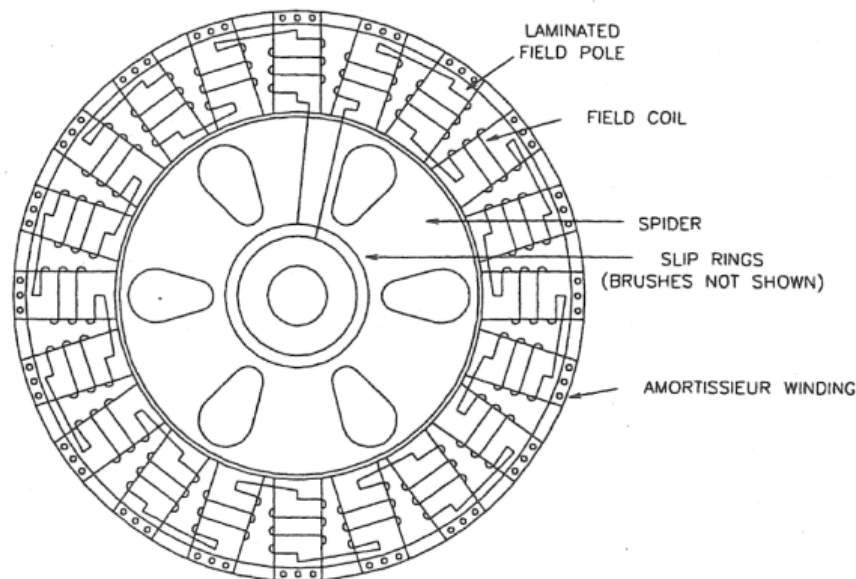

Figure 5 - Outline of a low speed alternator field.
12. **Low Speed Alternators.** A typical low speed alternator (about 100 to 500 r/min) has a rotating field which has many salient poles bolted to a 'spider'. The d.c. is fed to the rotor via slip rings. An outline of the arrangement of the rotating field is shown in Figure 5. A typical prime mover is a diesel engine or a vertically mounted low speed water turbine.
13. Exercise: At what speed would the alternator field shown in Figure 5 need to be rotated to produce an output of 50 Hz?